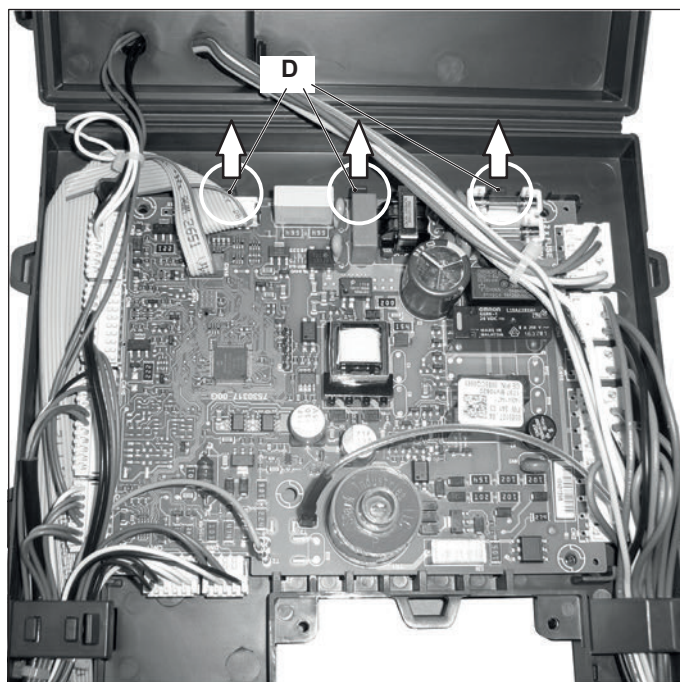

Figure 9.12
- 4 Delicately flex the hooks "D" in the directions indicated (Figure 9.12) in order to release the circuit from the box.